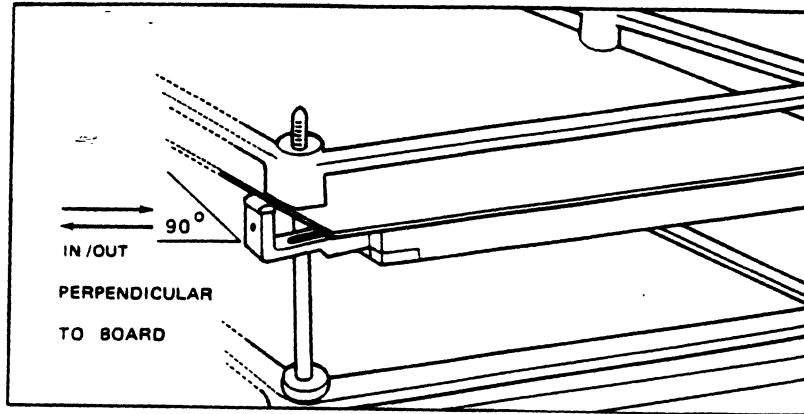

Figure 2-3. The ZIF Actuator Lever
4. Close the ZIF contacts by slowly pushing the plastic ZIF lever towards the board. Keep the lever exactly perpendicular to the side of the board. See Figure 2-3.
2. Pull the ZIF actuator lever all the way out (approximately 1/2 inch) from the topmost expansion board. See Figure 2-3.